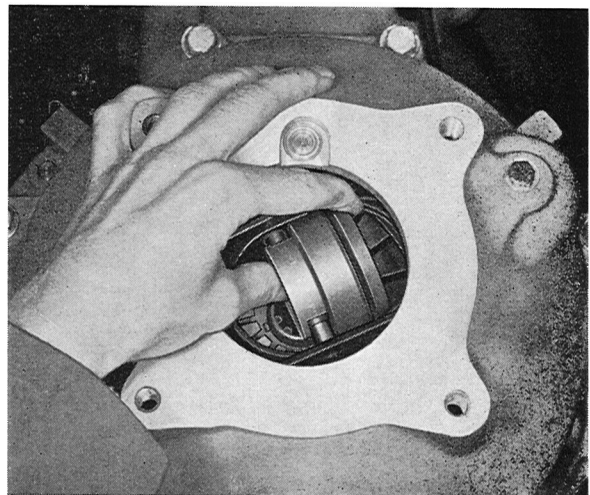

Fig. 4-5. Release bearing removed
3. Remove the release bearing. See Fig. 4-5. Disconnect the wire from the release fork. Slacken the wire sleeve from the bracket.